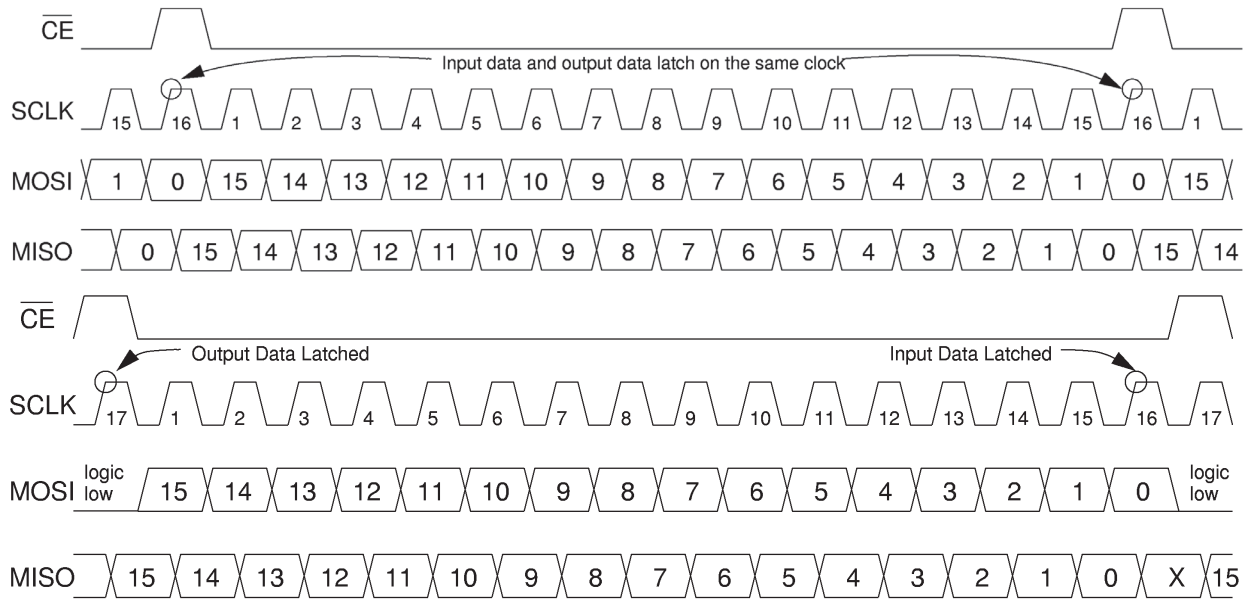

Figure 4. Serial Interface Timing
22. See Figure 4, Serial Interface Timing, page 16.